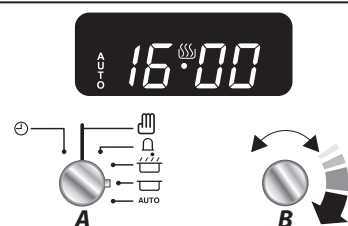

Fig. 3.12
5. Turn the **Timer (A)** knob to the **Auto (H)** setting (Fig. 3.12). If the display shows the current time and the word 'AUTO' the oven is set to turn on and off.